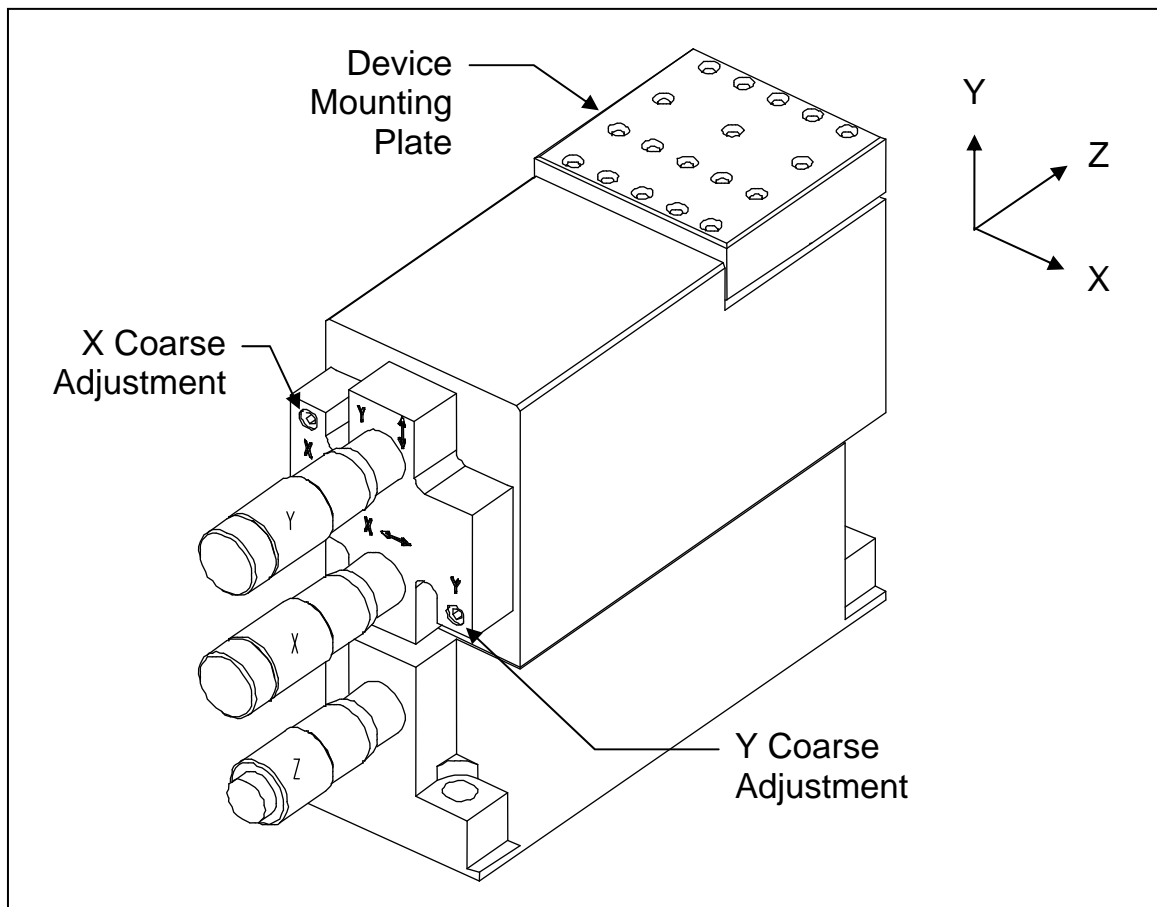

Figure 2 – I3000/I3005 3-Axis Positioner
- Small footprint allows multiple unit workstations (Fig 2).
Each line on the shaft of the micrometer corresponds to one rotation. The “smallest division” refers to the divisions on the knob of the micrometer. Clockwise rotation of each micrometer causes movement in a positive direction as shown in Figure 2 (pg. 4).
The device mounting plate (shown in Figure 2, pg. 4) is where devices and accessories are mounted. For dimensions, see Figure 5 on page 11. Also shown in Figure 2 (pg. 4), the center of rotation for all axes is 1 inch out and ½ inch up from the end of the device mounting plate. To avoid having to adjust the X,Y and Z axes when rotating the device, the device alignment point should be as close as possible to the rotation center.